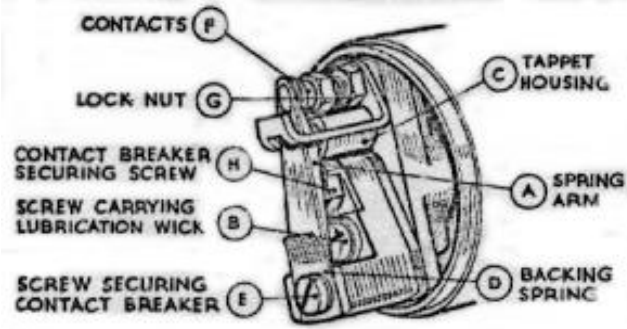

Fig. 47. Contact breaker with cover removed.
The cam is lubricated by a wick, contained in the contact breaker case, which must be given a few drops of thin machine oil about every 2,000 miles. To get at the wick, remove the spring arm (A, Fig. 47) carrying the moving contact and withdraw the screw (B) carrying the wick. At the same time after